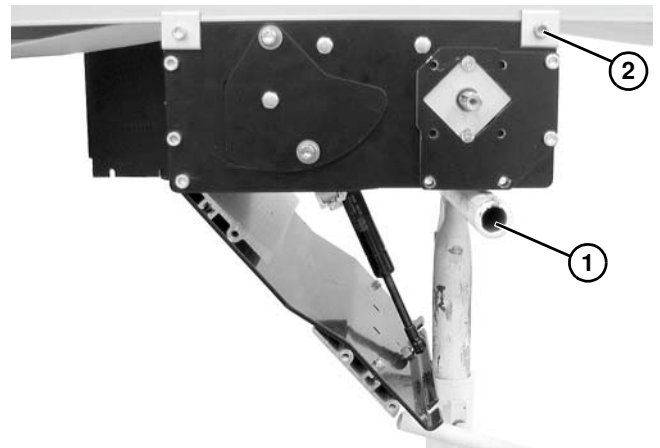

Figure 49
1. Place temporary support (**Figure 49, item 1**) underneath the drive module.
2. Loosen clamp screws (**Figure 49, item 2**) on each corner of the module. Remove the module.